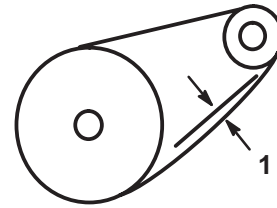

Figure 33
7. Check the deflection of the chain by lifting up on it with moderate pressure at the mid span. There should be a 1/8 to 3/8 in. (3 to 10 mm) deflection (Fig. 33).